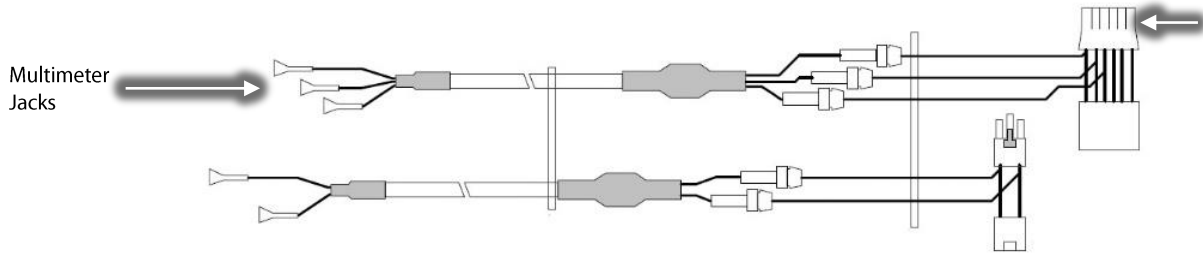
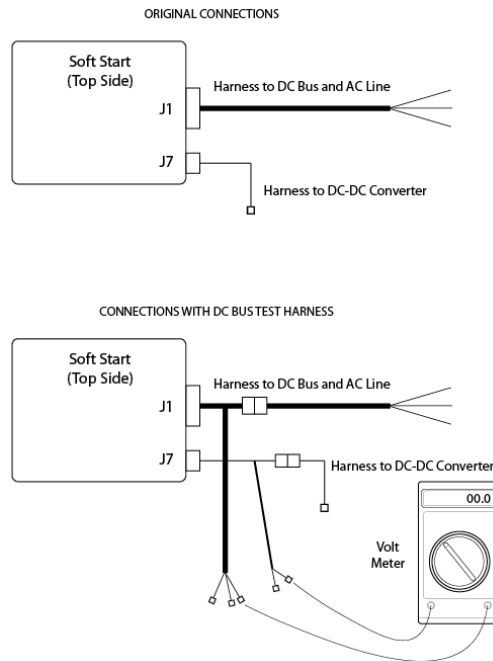

Figure 6 – Closed-Top Soft Start Connections
Figure 7 – DC Bus Test Harness Connection Diagram
2. Connect the two (2) plugs of the Compressor cable harness into corresponding sockets of the DC Bus Test Harness. Refer to Figure 6 – Closed-Top Soft Start Connections and Figure 7 – DC Bus Test Harness Connection Diagram.